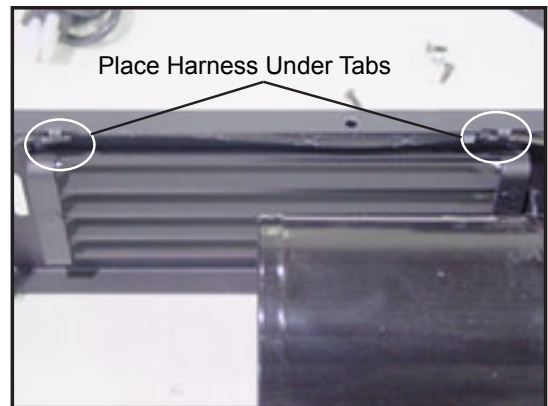

Figure 43.5
8. Using pliers, pry on the tabs that retain the harness enough to remove the harness. Do not disconnect the wires that go to the blower. Place the harness under the tabs on the left hand side of the convection housing and bend them down enough until they hold the harness. **Figure 43.5**